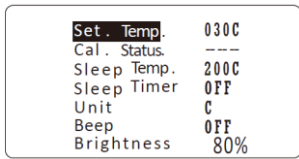

Fig.5
3.1. When Cal. status display "----" (see Fig 5) , it means temperature have not calibration.